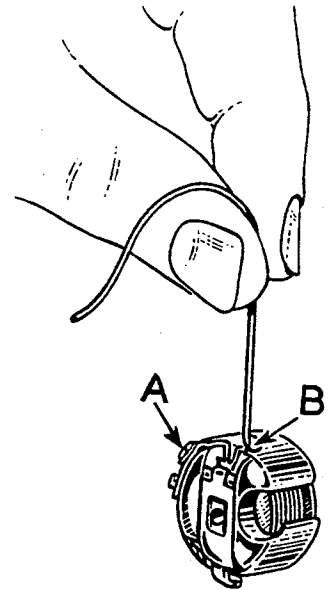

Fig. 11
The tension on the bobbin case is applied by means of a set screw (A, Fig. 11) which regulates tension spring (B). The tension on the spring is correct when it is just sufficient to hold the case and bobbin, suspended by the bobbin thread.